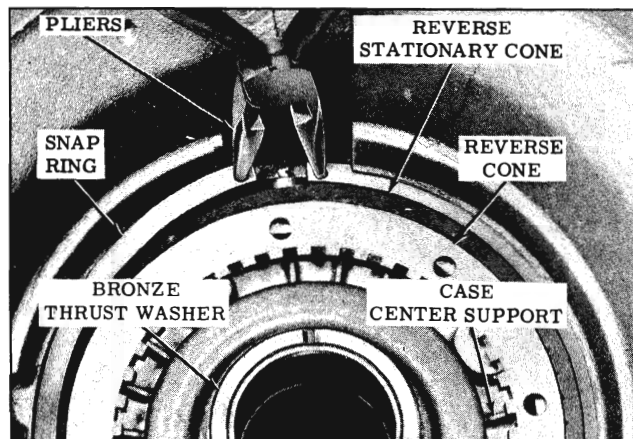

Fig. 3-250 Case Center Support Thrust Washer
53. Remove the front internal gear to case center support bronze thrust washer. (Fig. 3-250)